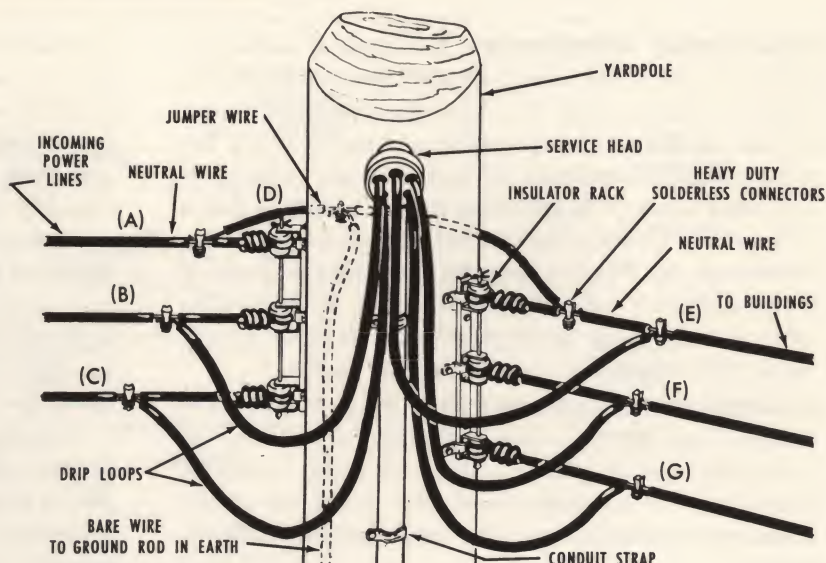

FIG. 94—YARPOLE WIRING CONNECTIONS
Refer to Fig. 94. The hot wires B and C run from power lines into service head, down through conduit and are attached to hot wires F and G of the service drop. This requires a service head with five holes. Some local codes do not permit the running of wires to the meter and from the meter in one conduit. If this is the case in your area, two separate conduits must be installed from meter to top of pole (double stack construction). Consult your local inspector or utility company about this.
**SERVICE DROPS OR "FEEDERS".** The three wires from the utility company run from the transformer on the power line to the meter on the yardpole. From this point on, all wires are usually supplied by the owner. Fig. 94 shows only one set of three "feeder" wires from pole to farm buildings. More of these "service drops" can be added as needed. Attach each additional service drop to an insulator rack and tap in from two hot wires coming from meter, then connect third neutral wire of service drop to complete the job. Be sure that service drops from pole to all buildings do not contact anything except their own insulators. These wires should have a clearance of at least 8 feet over roofs along their entire length and 10 ft. above the ground.
**TWO ACCEPTABLE METHODS.** Two methods are in use for bringing the neutral wire down the side of the yardpole. One way is to run the jumper wire D around the pole on the side opposite the conduit and meter, as shown in Fig. 94. Tap the bare ground wire onto the jumper wire and run the bare ground wire all the way down the pole opposite the meter, attaching it with staples.
**CONDUIT-INSULATOR RACK REQUIREMENTS.** The yardpole conduit must be large enough to hold all the wires running through it. Fig. 94 shows conduit with 5 wires leading from it; this should be at least 1 1/4 in. pipe. The service head should be connected tightly to top of conduit. All connections of conduit to meter and switch should be tightly secured.
**GROUNDING THE FARM SYSTEM.** A farm wiring system requires grounding at several points. The yardpole, the house, every outbuilding housing livestock and every building having two or more circuits—all must be grounded. Usually a city water system is not available, so an "artificial" ground must be installed. The ground wire is tapped off the neutral overhead wire (at the drip loop—see Fig. 94), brought down the side of the building or yardpole, and attached to a driven ground rod with a ground clamp, as shown in Fig. 100.